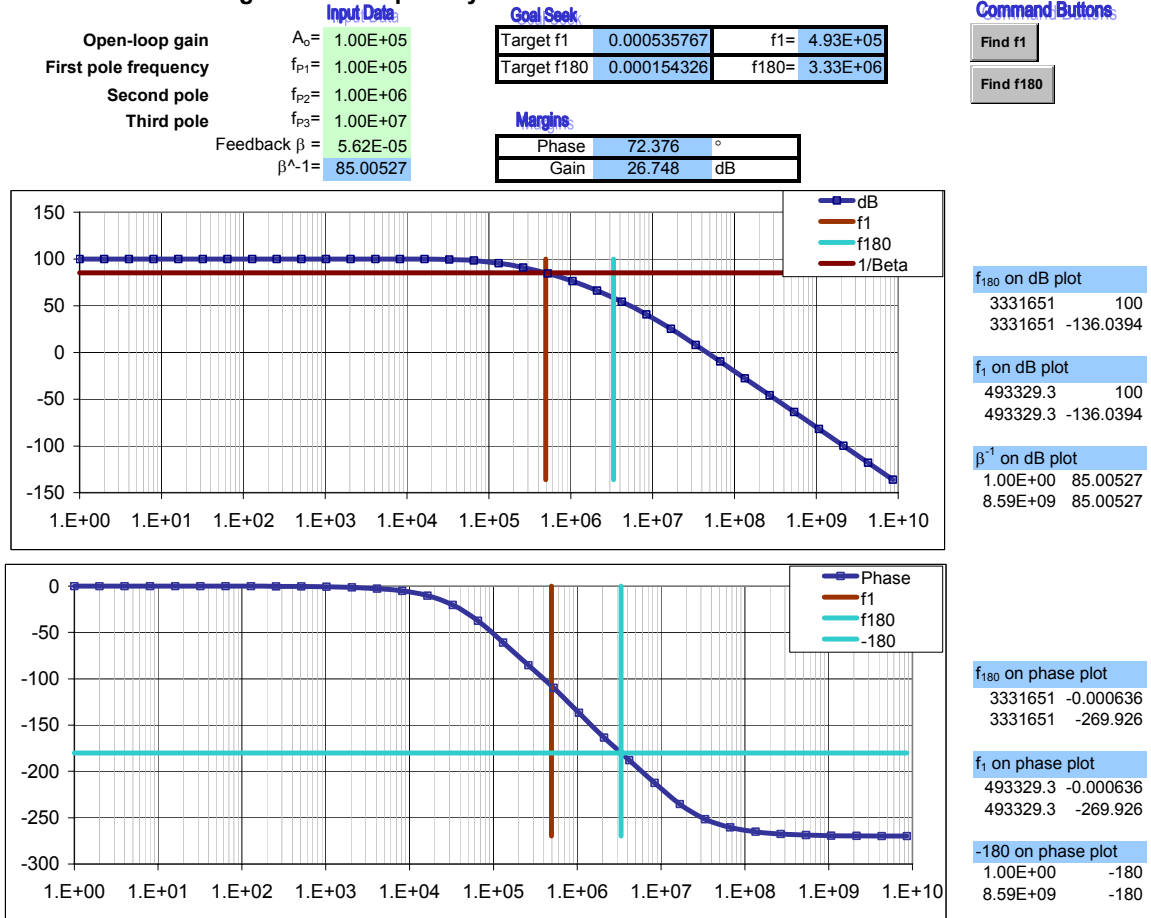

FIGURE 33:
50. Add labels. The final result is shown in Figure 33.